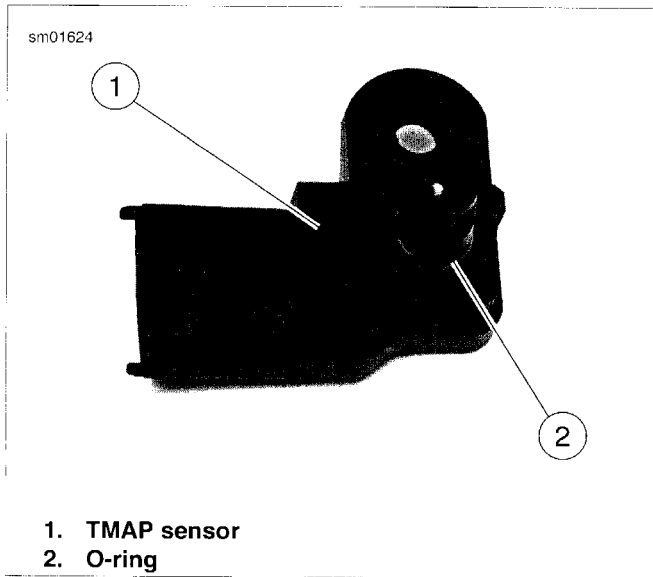

Figure 4-63. TMAP Sensor
1. See Figure 4-63. If re-using TMAP sensor (1), inspect O-ring (2) in groove of sensor for cuts, tears or signs of deterioration. Install **new** O-ring if necessary.
1. See Figure 4-63. If re-using TMAP sensor (1), inspect O-ring (2) for cuts, tears or signs of deterioration. If necessary, replace with **new** O-ring.